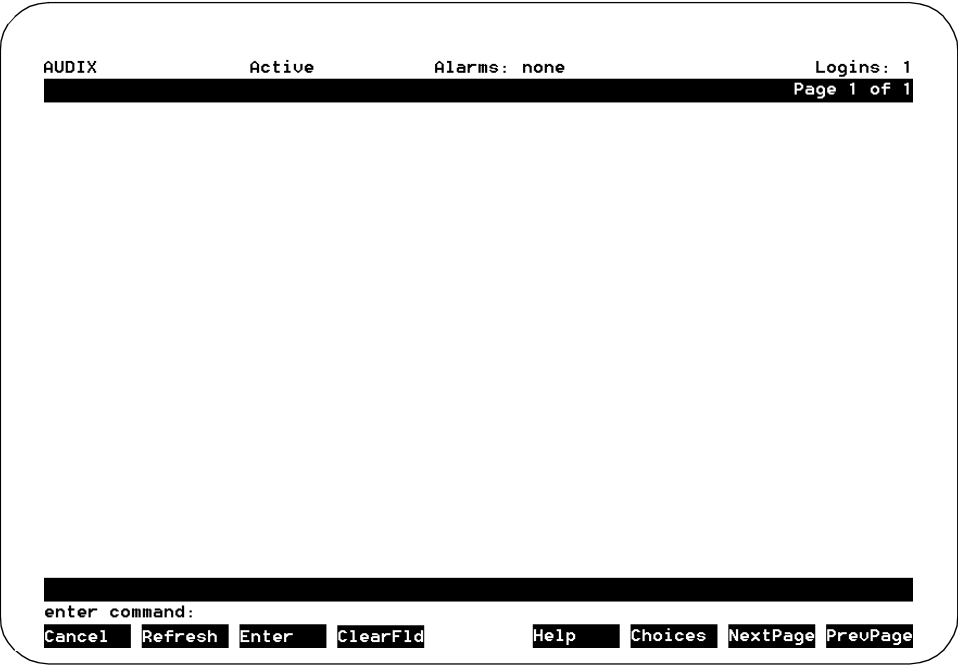

Figure F-1. The INTUITY AUDIX Form Screen
The system displays the INTUITY AUDIX® Form screen (Figure F-1).
2. Press **(ENTER)** to display the AUDIX Form screen (Figure F-1).